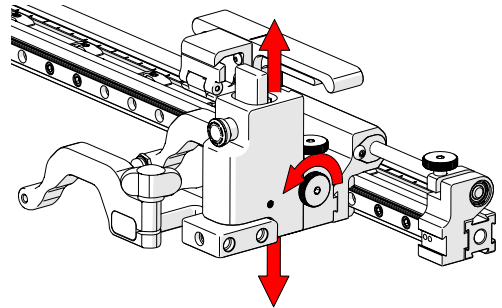

Fig. 35 - Vertical adjustment
2. The vertical adjustment knob (Fig. 35) allows height adjustment of the heavy duty vertical probe holder. This adjustment also controls the probe holder's spring tension.